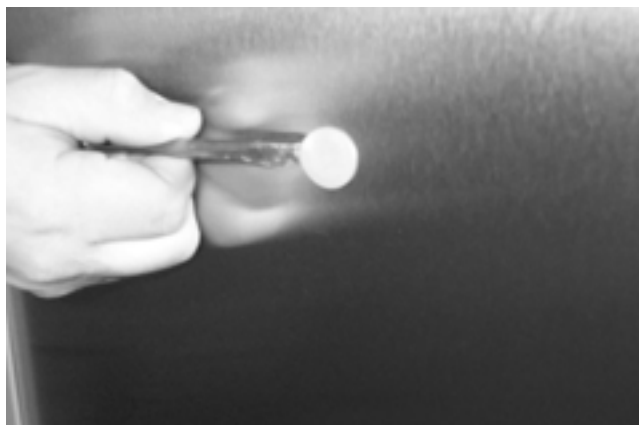
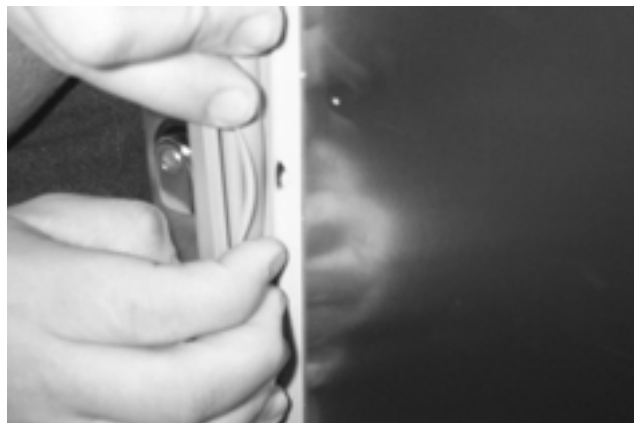

Figure 4-41
Figure 4-42
2. Pry off gray plug button (located in the rear center of the door) and a small section of the door gasket nearest the lock assembly (Figure 4-41 and Figure 4-42).